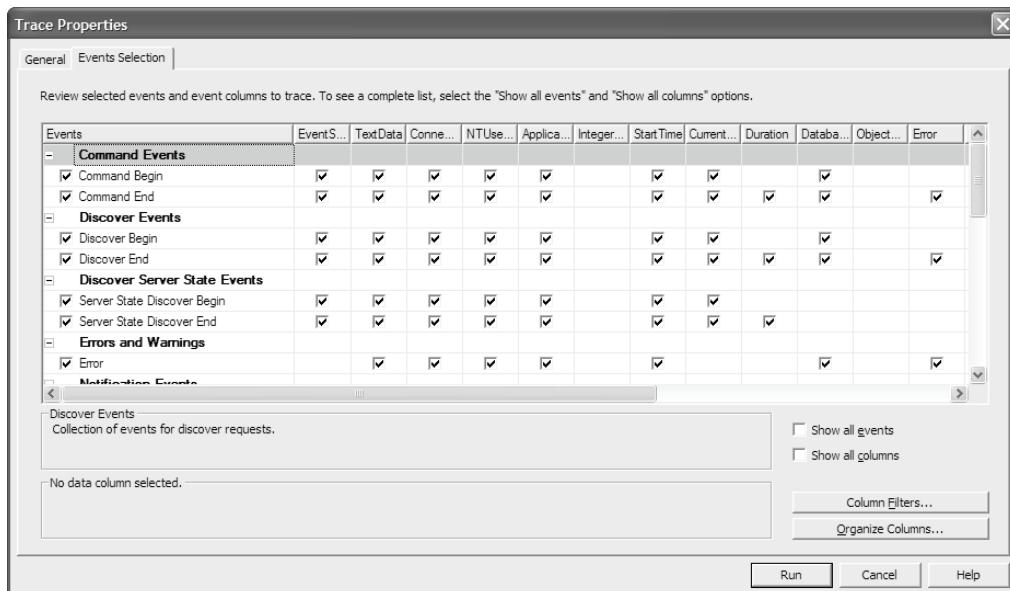

Figure 13.20 Use the Event Selection tab to filter the events you would like to monitor.
3. The Trace Properties is displayed (Figure 13.20).